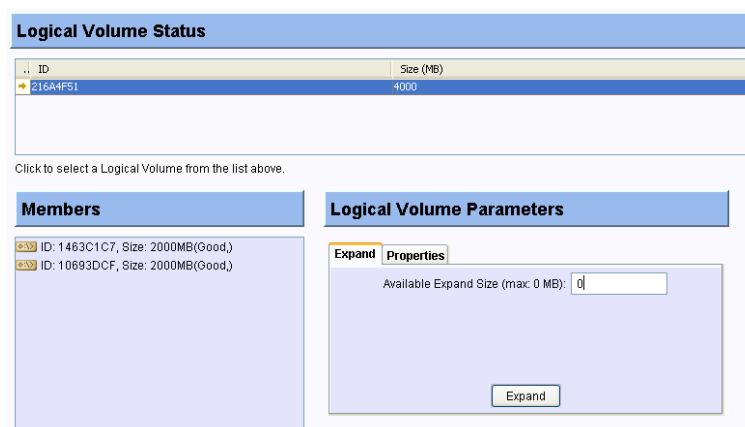

Fig. 9.17 Existing Logical Volumes Window
1. Select a configured LV from the Existing Logical Volumes window shown in *Figure 9.17*.